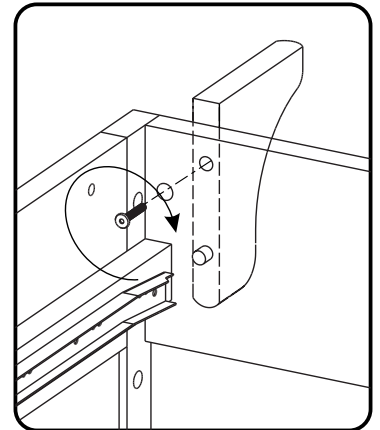

Figure 5
Attach Supports (R) to unit with Head Cap Bolts. (See Figure 5)